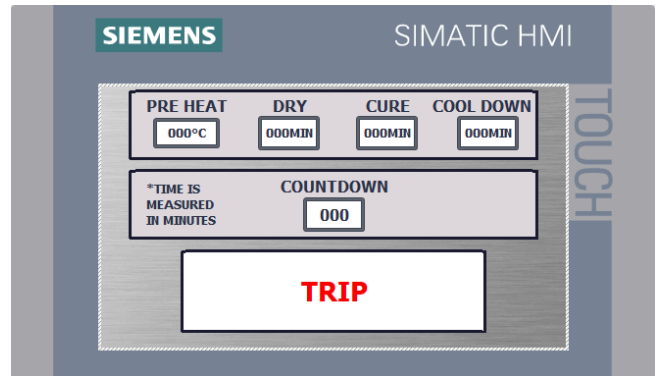

Figure 7 - Activity/control page
Shown in figure 7, the activity screen gives an overview of the machine and is the primary screen for everyday use. It also has four separate settings which operate the following functions:
1. Tapping the “pre heat” box (by default shows value on 000°C) on the activity/control page (figure 7) will allow you to input a temperature that the cabinet will heat up to.
Set the desired dry stage duration by tapping the white box (by default shows value of 000min) under the “DRY” text box on the main activity/control page on the HMI (figure 7). After tapping the box, a numerical input screen will appear allowing the operator to input the desired stage duration.
Set the desired cure stage duration by tapping the white box (by default shows value of 000min) under the “CURE” text box on the main activity/control page on the HMI (figure 7). After tapping the box, a numerical input screen will appear allowing the operator to input the desired stage duration.
Set the desired cool-down stage duration by tapping the white box (by default shows value of 000min) under the “COOL DOWN” text box on the main activity/control page on the HMI (figure 7). After tapping the box, a numerical input screen will appear allowing the operator to input the desired stage duration.
10. The machine will now begin to cycle through the four stages of the curing process (Pre-heat, Dry, Cure and Cool down), and the remaining duration of these four stages combined will show in the countdown box shown in figure 7.